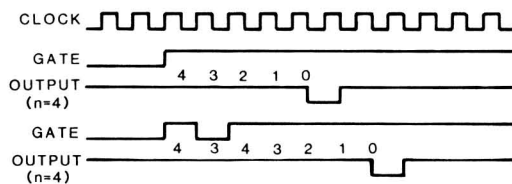

Figure 14-10. Timing Mode 5
**Hardware Triggerred Strobe (Mode 5)** — Figure 14-10 illustrates Mode 5. The counter, when it reaches zero in this mode, will place a single pulse that lasts for one clock cycle on its output. The counter will not start decrementing its value until it senses the rising edge of the gate input. The counter is retriggerable and will reload after it reaches zero.